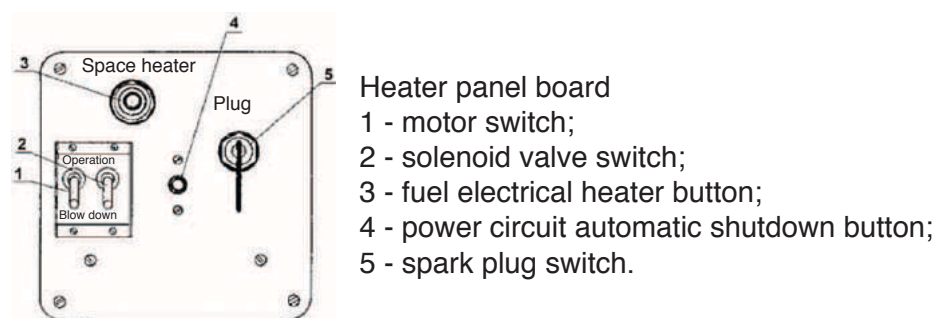

Fig. 93
6.9.2.3 Blow down the boiler gas duct - run the pump unit for 15-20 seconds by setting motor switch 1 (Fig. 93) into position OPERATION.